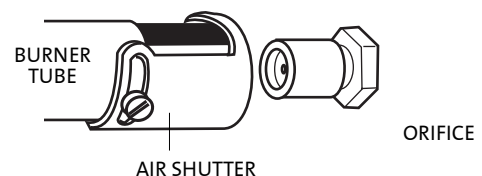

Figure 22. The Air Shutter should never be less than 1/8" open.
3. Use a phillips head screwdriver loosen to the screw at the air shutter and adjust as necessary for the appropriate fuel and desired flame picture. Retighten the screw after adjustment. See fig. 22.
**2. PILOT FLAME:** You can monitor the pilot flame through the view port in the lower right front of the log set. See fig. 22. The pilot flame should be steady - not lifting or floating. The flame should be blue in color around the pilot hood, with traces of yellow toward the outer edges.